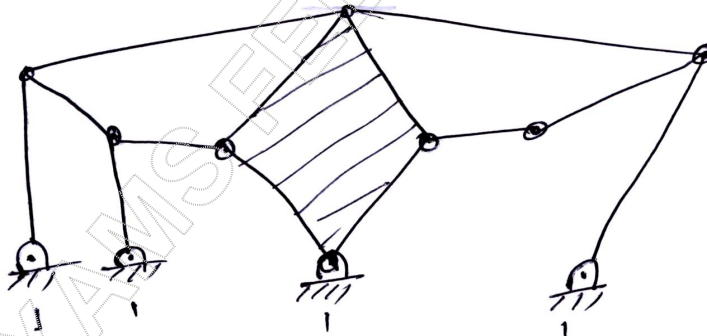

Fig.Q2(a)
- 2 a. Determine the degree of freedom of the linkage as shown in Fig.Q2(a).